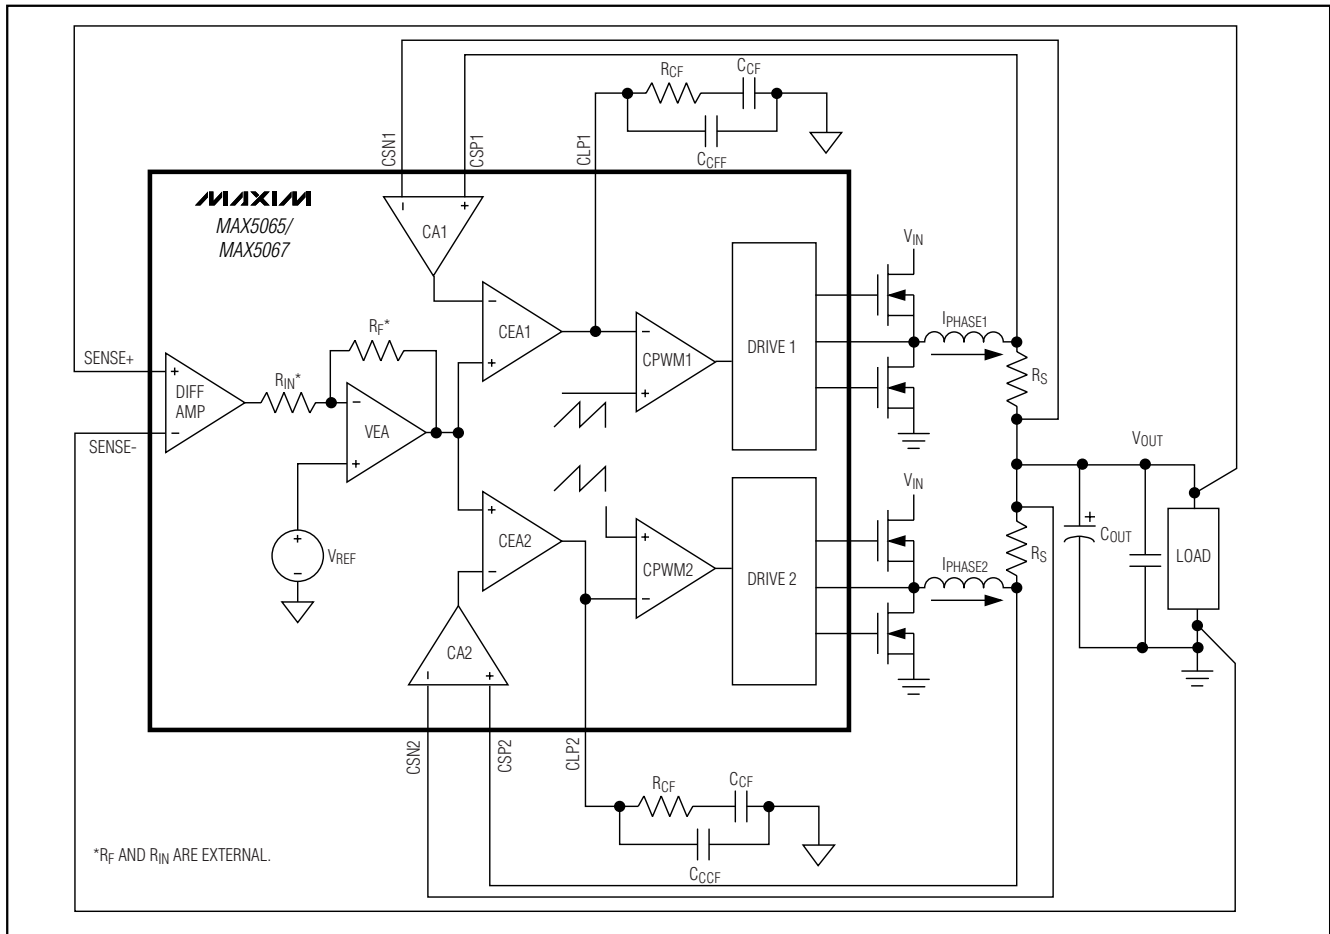

Figure 4. MAX5065/MAX5067 Control Loop
The MAX5065/MAX5067 use an average-current-mode control scheme to regulate the output voltage (Figure 4). The main control loop consists of an inner current loop and an outer voltage loop. The inner loop controls the output currents (I_{PHASE1} and I_{PHASE2}) while the outer loop controls the output voltage. The inner current loop absorbs the inductor pole reducing the order of the outer voltage loop to that of a single-pole system.
The outer voltage control loop consists of the differential amplifier (DIFF AMP), reference voltage, and VEA. The unity-gain differential amplifier provides true differential remote sensing of the output voltage. The differential amplifier output connects to the inverting input (EAN) of the VEA. The noninverting input of the VEA is internally connected to an internal precision reference voltage. The MAX5067 reference voltage is set to +0.8V and the MAX5065 reference is set to +0.6V. The VEA controls the two inner current loops (Figure 4). Use a resistive feedback network to set the VEA gain as required by the adaptive voltage-positioning circuit (see the *Adaptive Voltage Positioning* section).
Each phase of the MAX5065/MAX5067 has a dedicated transconductance current-error amplifier (CEA_) with a typical g_m of 550 μ S and 320 μ A output sink and source current capability. The current-error amplifier outputs, CLP1 and CLP2, serve as the inverting input to the PWM comparator. CLP1 and CLP2 are externally accessible to provide frequency compensation for the inner current loops (Figure 4). Compensate CEA_ so the inductor current down slope, which becomes the
The differential amplifier (DIFF AMP) facilitates output voltage remote sensing at the load (Figure 4). It provides true differential output voltage sensing while rejecting the common-mode voltage errors due to high-current ground paths. Sensing the output voltage
The VEA output clamps to +0.9V relative to VCM (+0.6V), thus limiting the average maximum current from individual phases. The maximum average current-limit threshold for each phase is equal to the maximum clamp voltage of the VEA divided by the gain (18) of the current-sense amplifier. This results in accurate settings for the average maximum current for each phase. Set the VEA gain using RF and RIN for the amount of output voltage positioning required within the rated current range as discussed in the *Adaptive Voltage Positioning* section (Figure 4).
Average-current-mode control has the ability to limit the average current sourced by the converter during a fault condition. When a fault condition occurs, the VEA output clamps to +0.9V with respect to the common-mode voltage ($V_{CM} = +0.6V$) and is compared with the output of the current-sense amplifiers (CA1 and CA2) (see Figure 4). The current-sense amplifier's gain of 18 limits the maximum current in the inductor or sense resistor to $I_{LIMIT} = 50mV/R_S$.